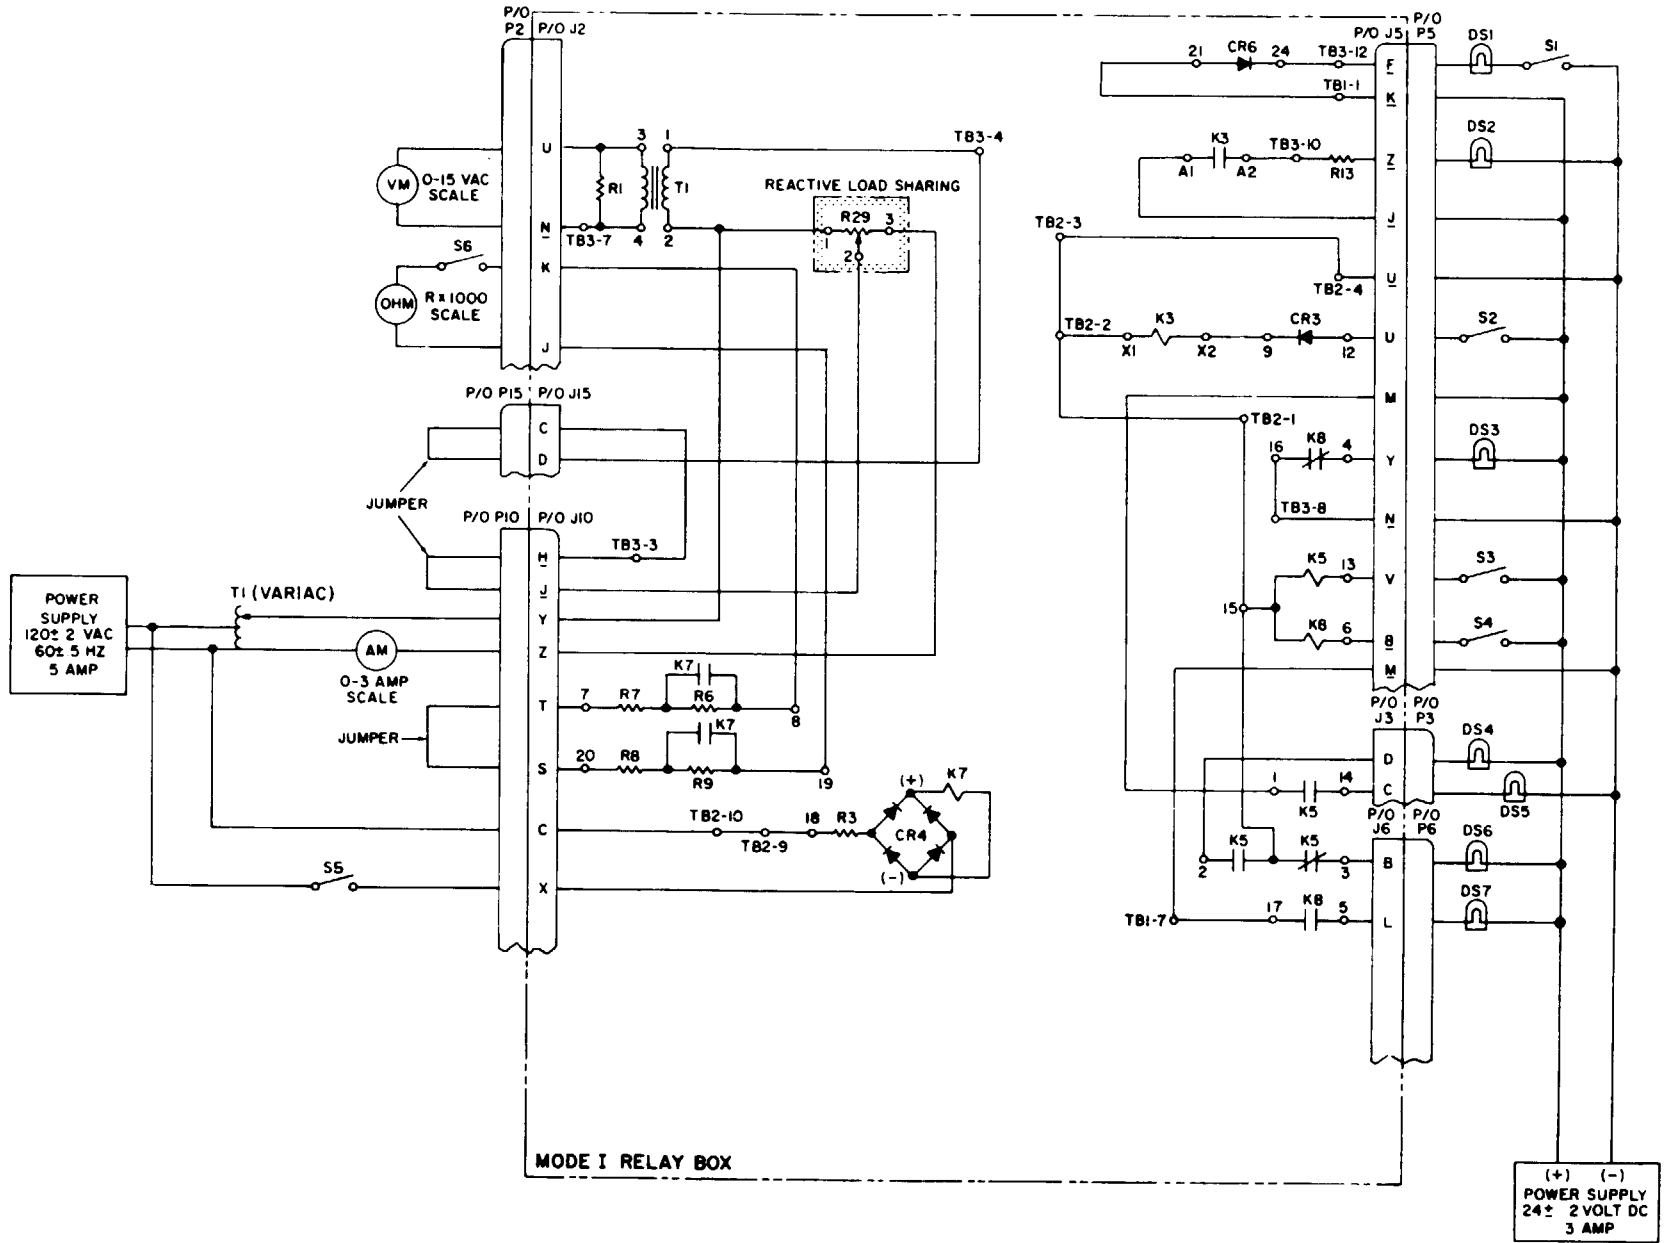

Figure 6-25. Mode I relay box assembly (A27) test setup
- b. Connect the mode I relay box assembly to test equipment as illustrated in figure 6-25 and perform test specified in procedural analysis table 6-11